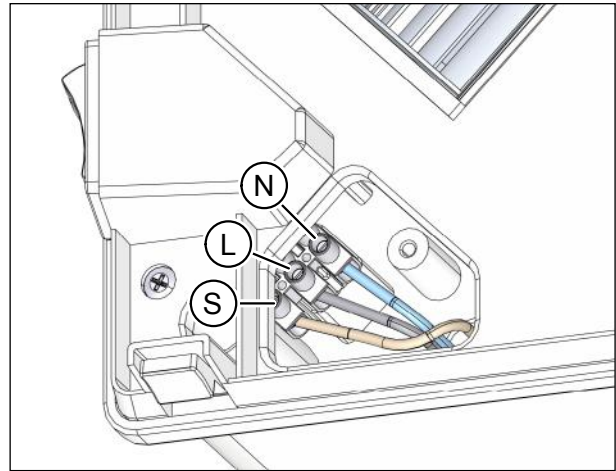

Fig. 29: Connecting the ventilation unit to the mains power supply
- ▶ Connect the neutral conductor N (item N in Fig. 29) and the outer conductor L (item L in Fig. 29) to the screw terminal of the ventilation unit.
- ▶ Connect the wire for the external control input (if used) (item S in Fig. 29) to the screw terminal (only for ventilation units with external control input, see Table 5 in section 10.8 on page 23).